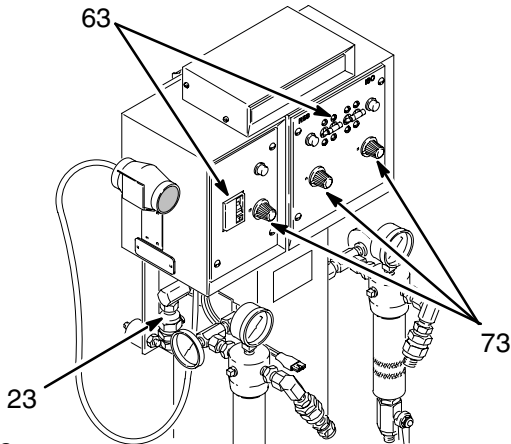

Fig. 19 01294
ELECTRIC SHOCK HAZARD Be sure the heater and heated hose circuit breakers (63) are shut off to reduce the risk of electric shock. See Fig. 19, page 18.
5. Start the heaters. See Fig. 19.
- a. Set all three Temp Set dials (73) to “cal” position, approximately 120°F (49°C).
- b. Turn the circuit breakers (63) to “I” for ON.